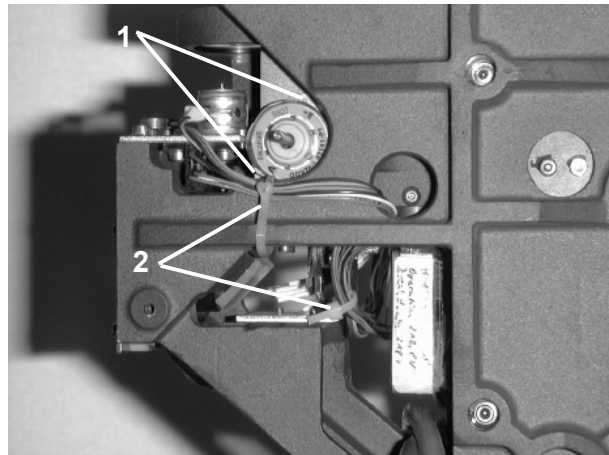

Fig. 36
- Remove screws ((1) Fig. 36).
- Cut open cable ties ((2) Fig. 36).
- Insert the motor including the spindle and align it in such a way that the spindle is located in the center of the motor opening. Tighten screws ((1) Fig. 36) to secure the motor in position.
- Attach cable ties (2 Fig. 36).